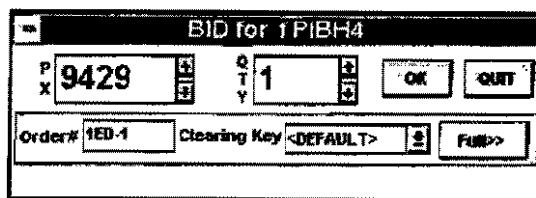

Figure 2.3 Bid Dialog Box
Functions on the Trade menu, which are also shown in the Trading Panel, are the most frequently used keystation functions. These functions allow you to enter Bids and Offers and to Sell (Hit) or Buy (Take) as well as to change or cancel open orders. The dialog boxes used for these functions (see Section 2.2 and 2.3 on selecting instruments and functions) have a similar basic design. Figure 2.3 shows the Bid dialog box.
3. Complete the additional fields. Choose **Brief** to display just the clearing key and order number. (The command button changes to **Full** as in Figure 2.3.)
In dialog boxes such as the one for entering a Bid shown in Figure 2.3, command buttons have equivalent hard keys. For the Price and Quantity fields, hard keys work only if the cursor is in the text box.